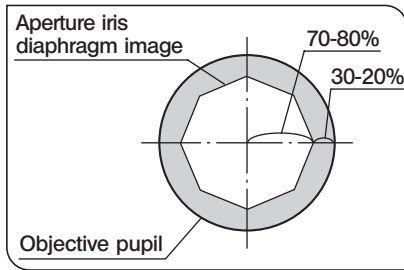

Fig. 1
- The aperture iris diaphragm controls the numerical aperture (NA) of the illuminator. In order to achieve the optimum objective performance, the opening of the aperture iris diaphragm should be matched with the NA of the objective in use. This will result in better image contrast and resolution as well as increased depth of focus.
- As microscopic specimens are usually low in contrast, reducing the diaphragm opening to 70% or 80% of the objective's N.A. will generally provide an image of acceptable quality. To check the opening, after completing focus adjustment, remove one of the eyepieces and look into the empty eyepiece sleeve. As you stop down the aperture iris diaphragm, the iris diaphragm image can be seen in the objective pupil. (Fig. 1)